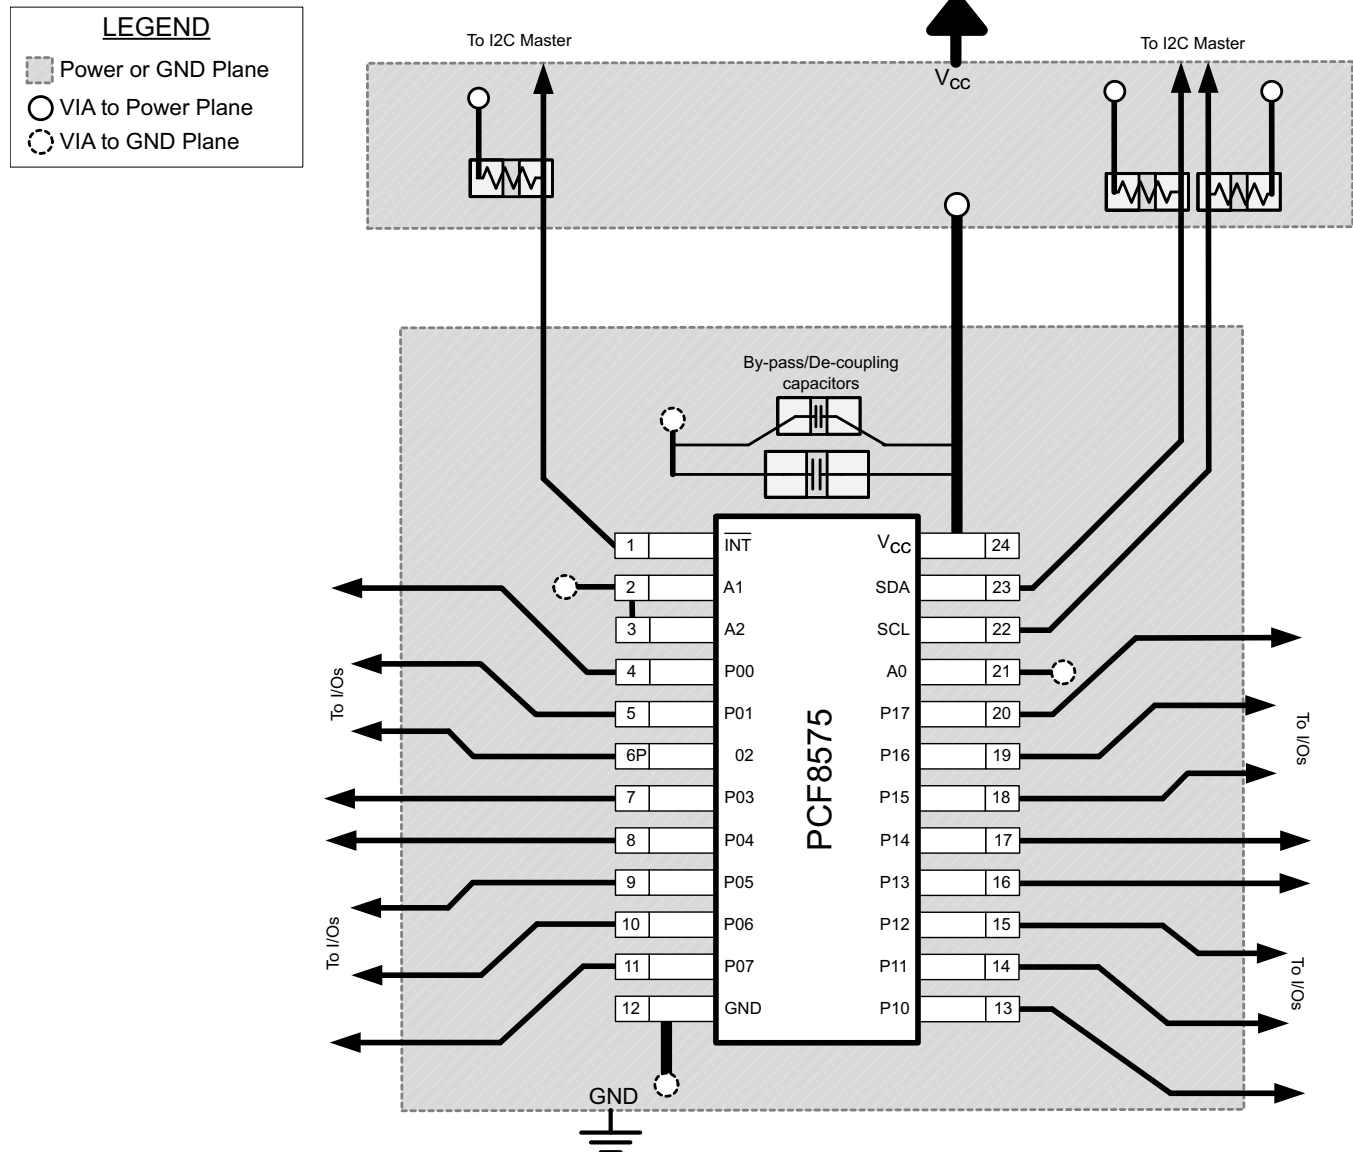

Figure 29. Layout Example for PCF8575
In all PCB layouts, it is a best practice to avoid right angles in signal traces, to fan out signal traces away from each other upon leaving the vicinity of an integrated circuit (IC), and to use thicker trace widths to carry higher amounts of current that commonly pass through power and ground traces. By-pass and de-coupling capacitors are commonly used to control the voltage on the VCC pin, using a larger capacitor to provide additional power in the event of a short power supply glitch and a smaller capacitor to filter out high-frequency ripple. These capacitors should be placed as close to the PCF8575 as possible. These best practices are shown in Figure 29.
For the layout example provided in Figure 29, it would be possible to fabricate a PCB with only 2 layers by using the top layer for signal routing and the bottom layer as a split plane for power (VCC) and ground (GND). However, a 4 layer board is preferable for boards with higher density signal routing. On a 4 layer PCB, it is common to route signals on the top and bottom layer, dedicate one internal layer to a ground plane, and dedicate the other internal layer to a power plane. In a board layout using planes or split planes for power and ground, vias are placed directly next to the surface mount component pad which needs to attach to VCC or GND and the via is connected electrically to the internal layer or the other side of the board. Vias are also used when a signal trace needs to be routed to the opposite side of the board, but this technique is not demonstrated in Figure 29.